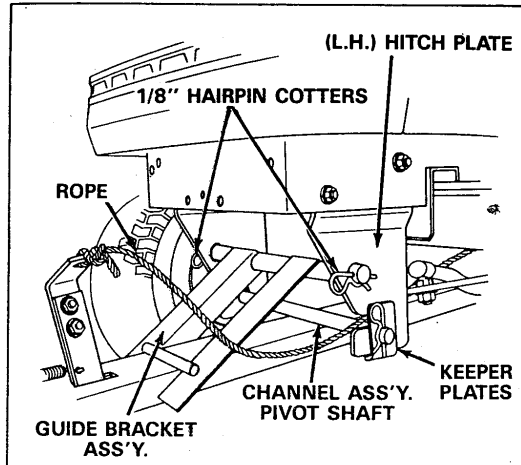

FIGURE 20
3. Refer to figure 20 below and remove 1/8" (large) hairpin cotters from ends of guide bracket assembly and remove guide bracket assembly.
4. Refer to figure 20 above and remove 1/8" (large) hairpin cotters from ends of channel assembly pivot shaft and remove keeper plates. Lift the channel assembly pivot shaft out of the hitch plates and lower channel to the ground.
Hitch plates do not require removal for re-assembly of mower deck. See figure 20.